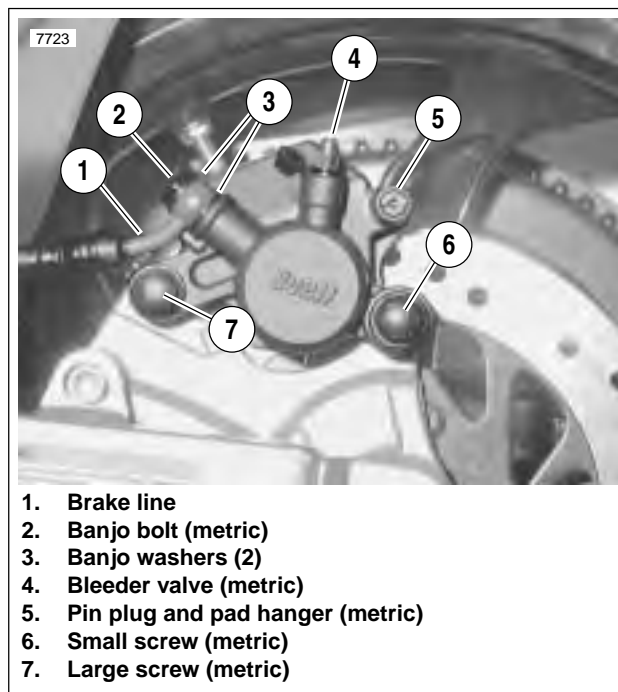

Figure 2-59. Rear Brake Caliper (Typical)
- See Figure 2-59. Install caliper assembly on caliper mount. Brake pad surfaces must face rear brake rotor.
- Install large caliper screw (7) (metric). Tighten to 18-22 ft-lbs (24-30 Nm).
- Install small caliper screw (6) (metric). Tighten to 15-18 ft-lbs (20-24 Nm).